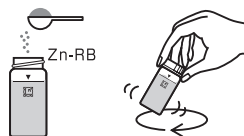

Fig.4
6. Add a heaping spoon of Zn-RB reagent with the attached spoon into the vial. Put the cap tightly and stir the vial 5 - 6 times. (Fig.4)